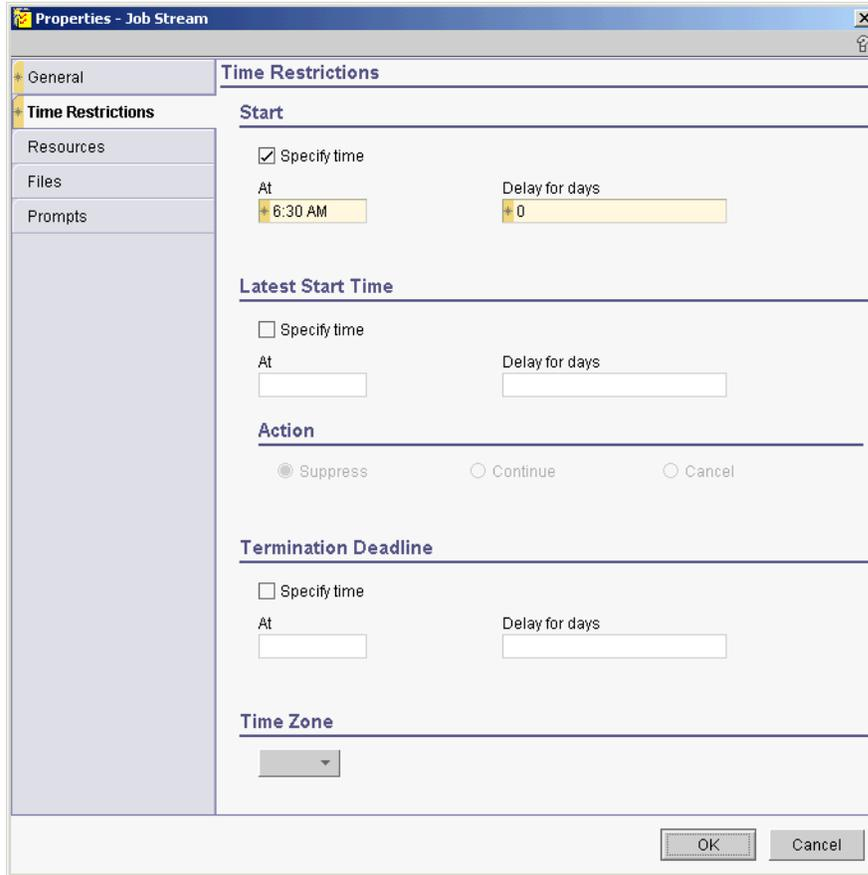

Figure D-12 Properties - Job Stream: Time Restriction
13. Click **Time Restrictions** in the left pane, as shown in Figure D-12 on page 479.